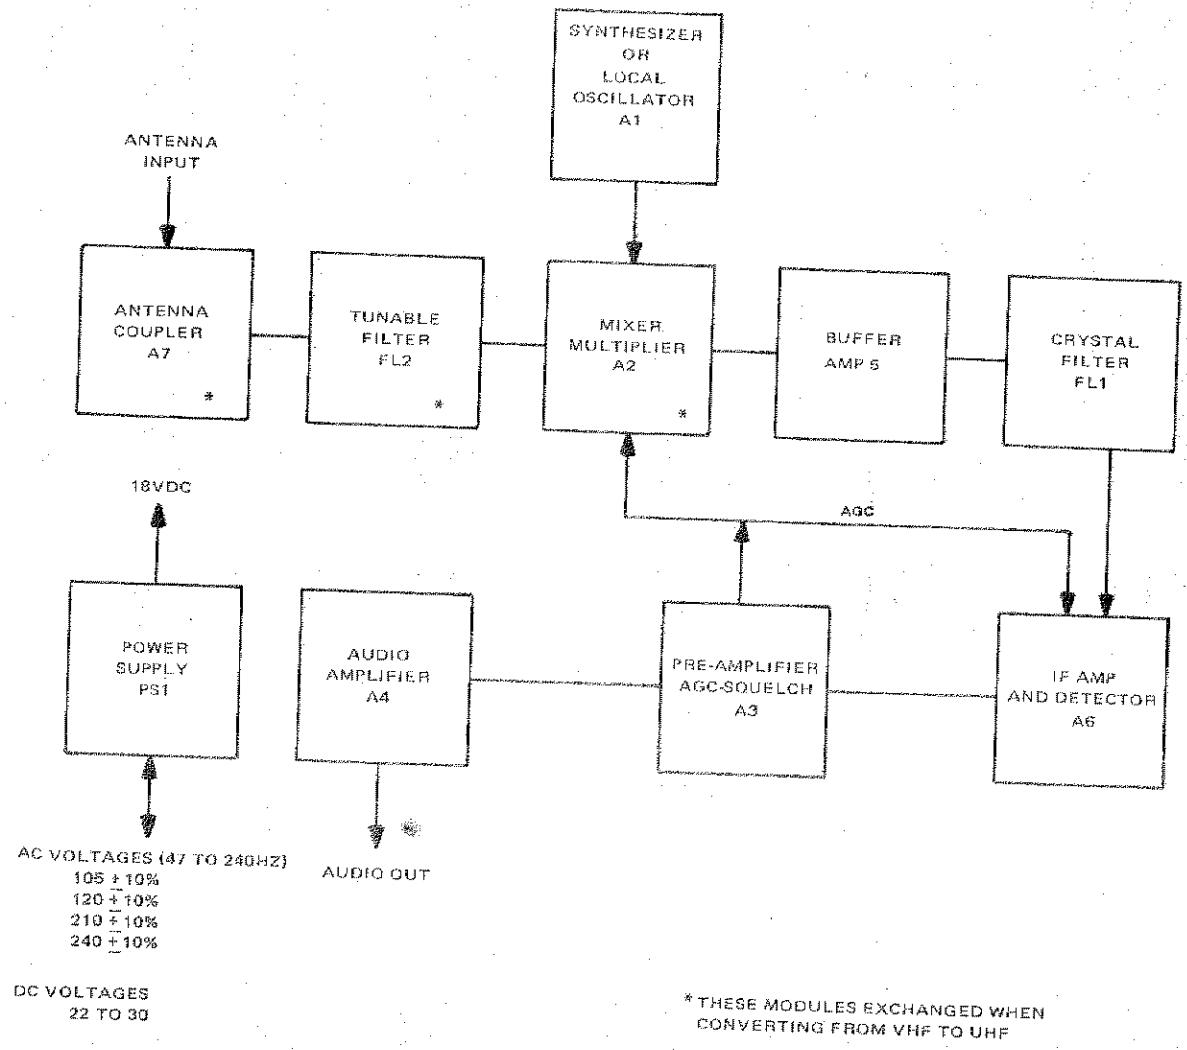

Figure 2-1. VHF and UHF Receivers, Block Diagram
2.2 FUNCTIONAL DESCRIPTION.- The vhf and uhf receivers are single-conversion, crystal-controlled, superheterodyne receivers. They are identical in physical configuration but differ electrically in the antenna coupler, the tunable filter, and the mixer-multiplier modules. In addition to these modules, the receivers have in common a local oscillator, buffer amplifier, crystal filter, an IF amplifier and detector, a preamplifier with automatic gain control (agc) and squelch circuits, an audio amplifier, and a power supply (see figure 2-1).